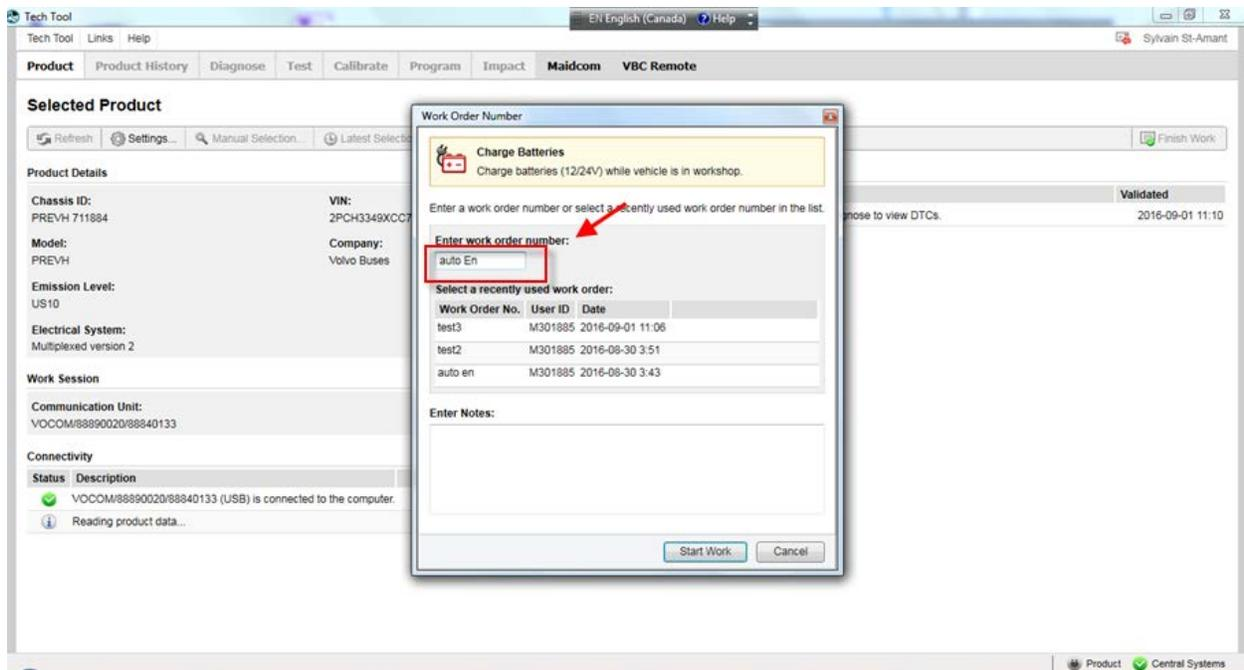

FIGURE 13
1. In Premium TechTool, select PRODUCT tab. Enter work order number (FIGURE 13).